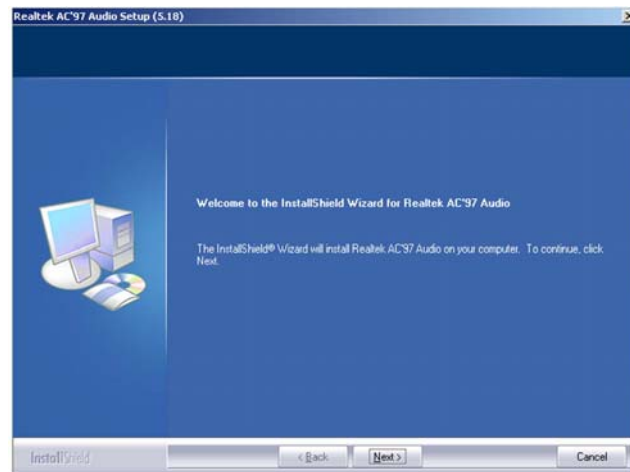

Figure 7-8: Audio Driver Welcome Screen
- Step 4:** After install shield is prepared, the welcome screen shown in **Figure 7-8**